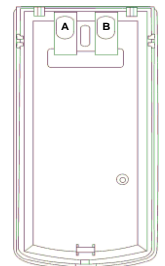

Fig.2
2. Insert wire through the bracket and holes "A" and "B". (See fig.2)